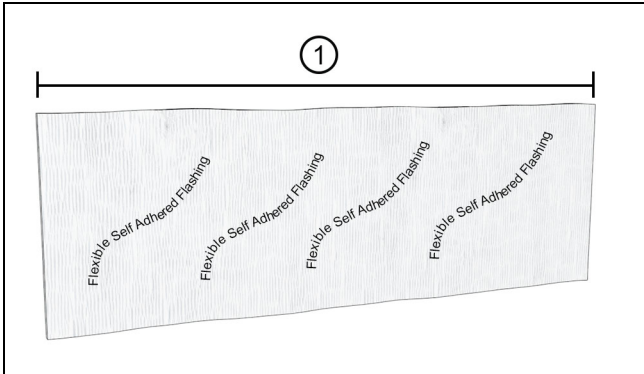

Figure 12
1. Cut one 18" (457) strip of Type III flexible self adhered pan flashing material. See Figure 12.